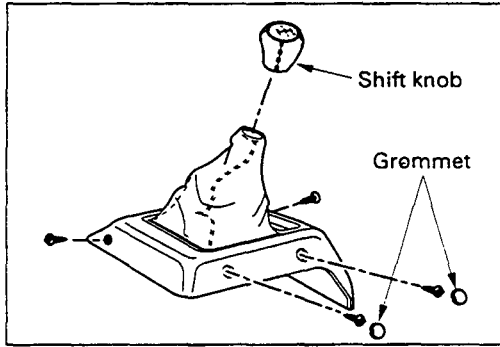

Fig.1
1. Center Console Assembly (Fig.1)